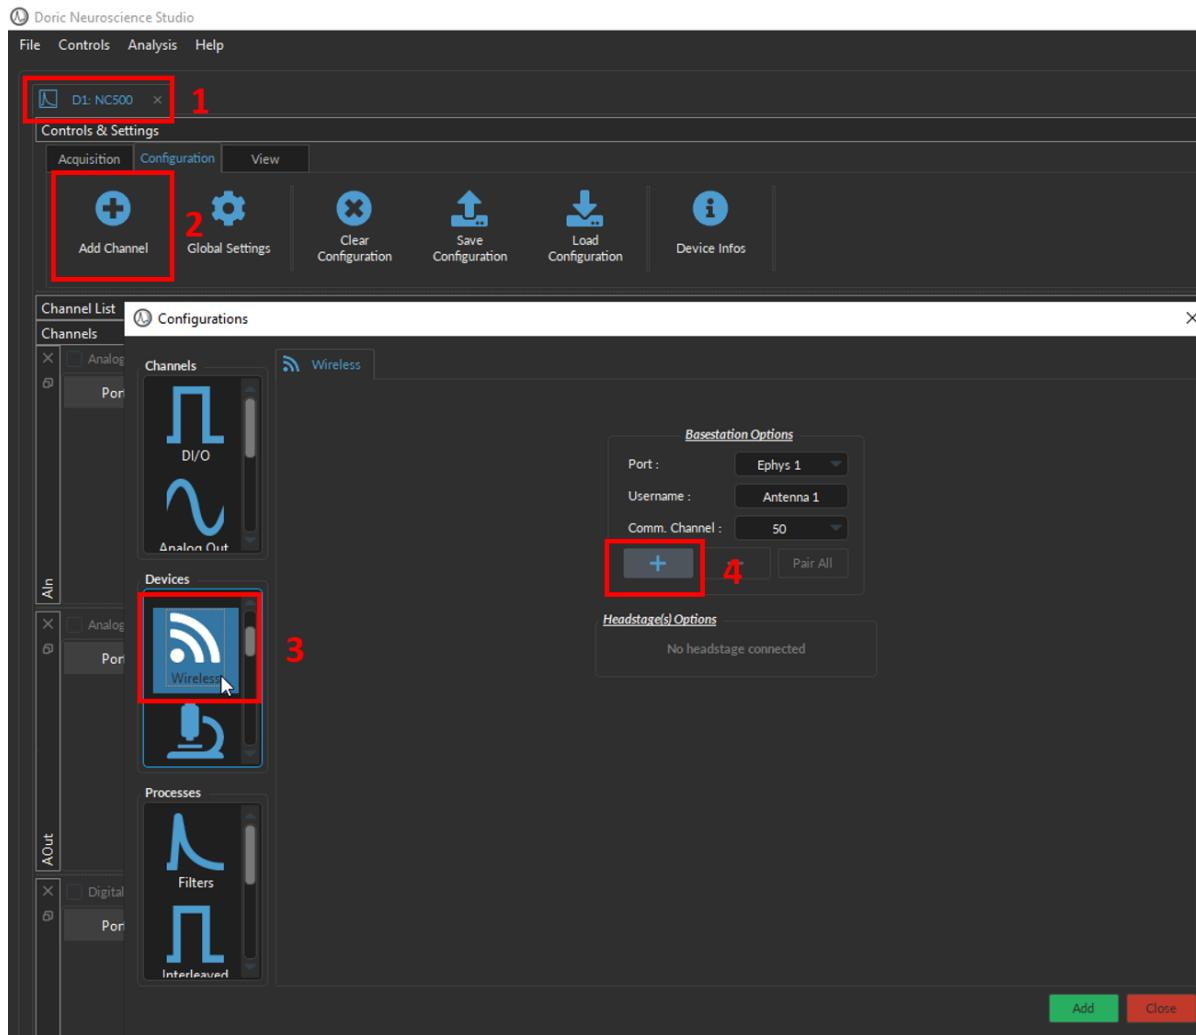

Figure 2.5: Add base station
2. Now, in the console's "Configuration" tab, click on "Add Channel". Then, in the "Devices" menu, select the "Wireless" option (Figure 2.5).
3. Start with the default "Comm. Channel" and click the "+" key (Figure 2.5).